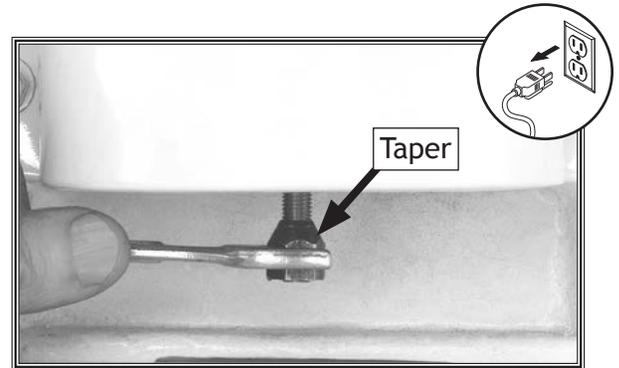

Figure 54. Threading on drawbar nut with tapered end up.
3. Remove table and table spacers from shaper by removing (7) bolts and washers that secure table.
4. Install table with (2) M12-1.75 x 20 hex bolts, (2) 1/2" flat washers, (5) M12-1.75 x 25 hex bolts, (5) and 1/2" lock washers (original mounting bolts you removed when you converted shaper for use as router table).
6. Thread drawbar nut onto bottom of drawbar with taper side up, as shown in **Figure 54**.